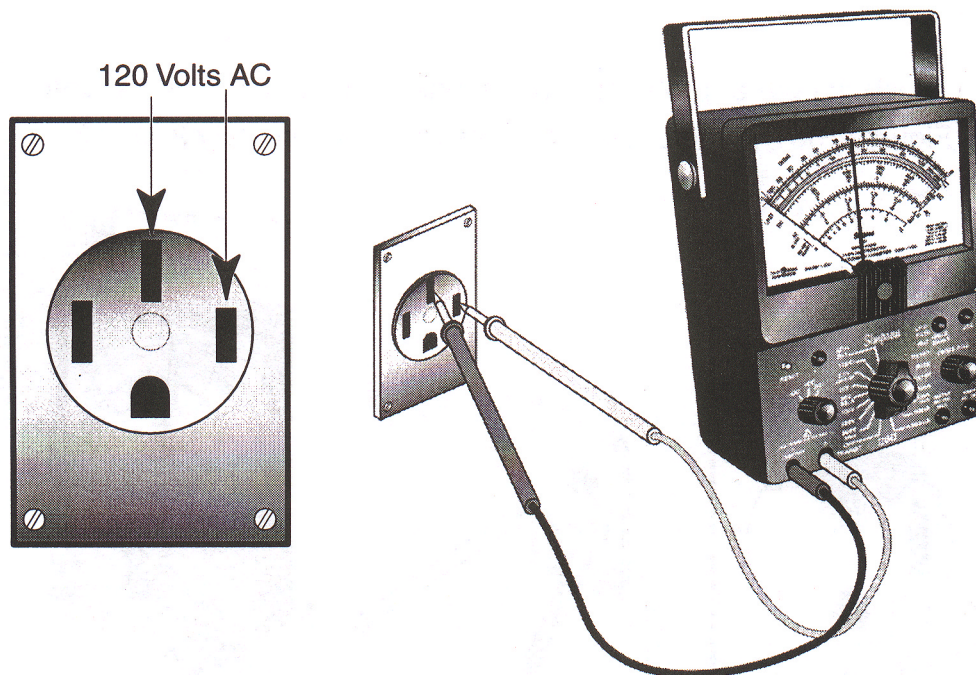

Figure 21
4. Touch the meter probe tips to the indicated outlet openings (see Figure 21). The meter should measure approximately 120 volts AC.